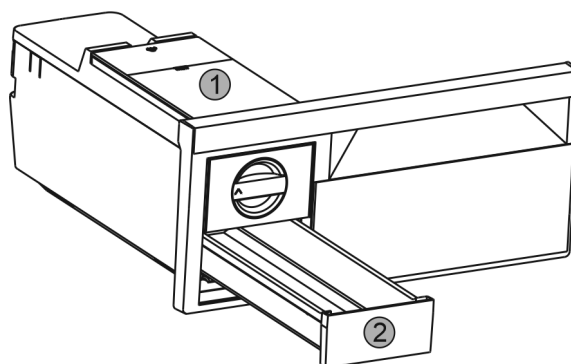

Fig. 53
- Take out the water tank Fig. 53 (1) and ice cube drawer Fig. 53 (2).